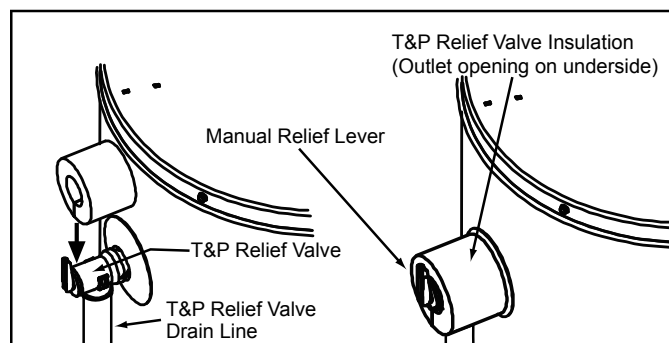

Figure 20.
Locate the temperature and pressure relief valve on the water heater (also known as a T&P relief valve). See Figure 20.
2. Spread the slit open and fit the insulation over the T&P relief valve. See Figure 20. Apply gentle pressure to the insulation to ensure that it is fully seated on the T&P Relief Valve. Once seated, secure the insulation with duct tape, electrical tape, or equivalent. **Important:** The insulation and tape must not block the discharge opening or hinder access to the manual relief lever (Figure 20). Ensure a discharge pipe is installed into the T&P valve discharge opening per the instructions in this manual.